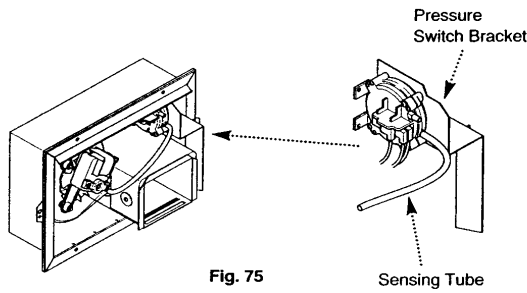

Fig. 75
3. Undo the screws securing the pressure switch bracket to the fan box and draw the bracket forwards (Fig. 75).
4. Pull the sensing tube off the fan. Note the position of the wires on the fan and pressure switch and remove them. Place the pressure switch to one side (Fig. 75).